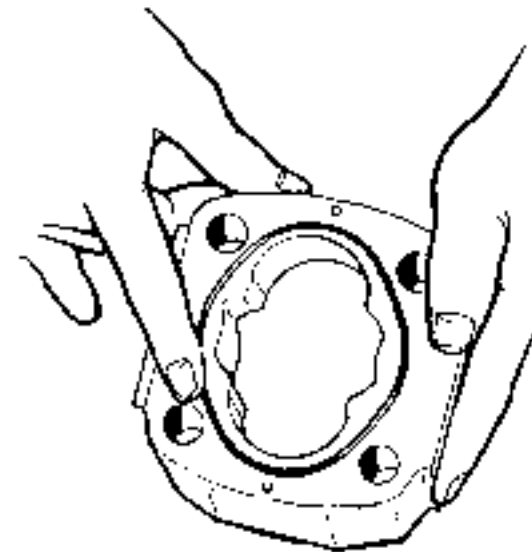

Fig. 21
9. Fix square ring ⑥ in the groove of gear case ⑦ with grease. (Fig. 21)